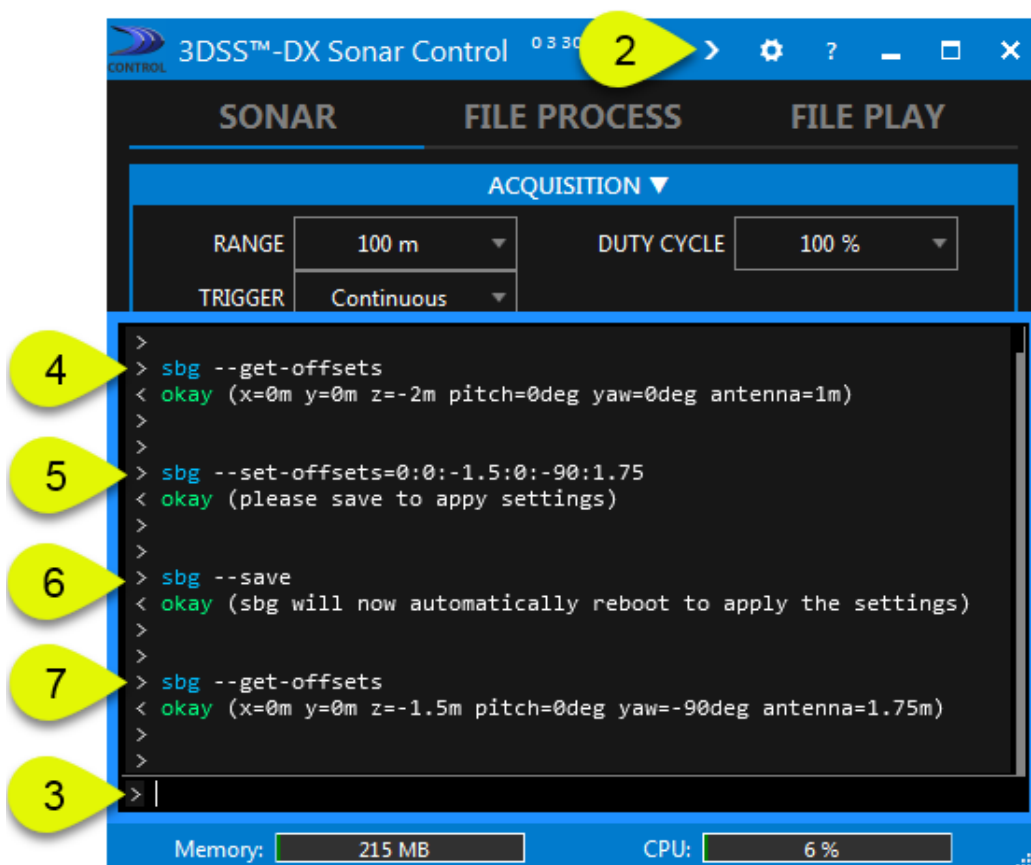

FIGURE 18. PROGRAMMING ELLIPSE-2 LEVER ARM USING COMMAND CONSOLE
2. Click the chevron in the top-right of the 3DSS Control application to open up the command console. See Figure 18 marker 2.
Figure 18 on the next page shows the 3DSS Control application after all of the commands in steps 4 – 7 have been executed.